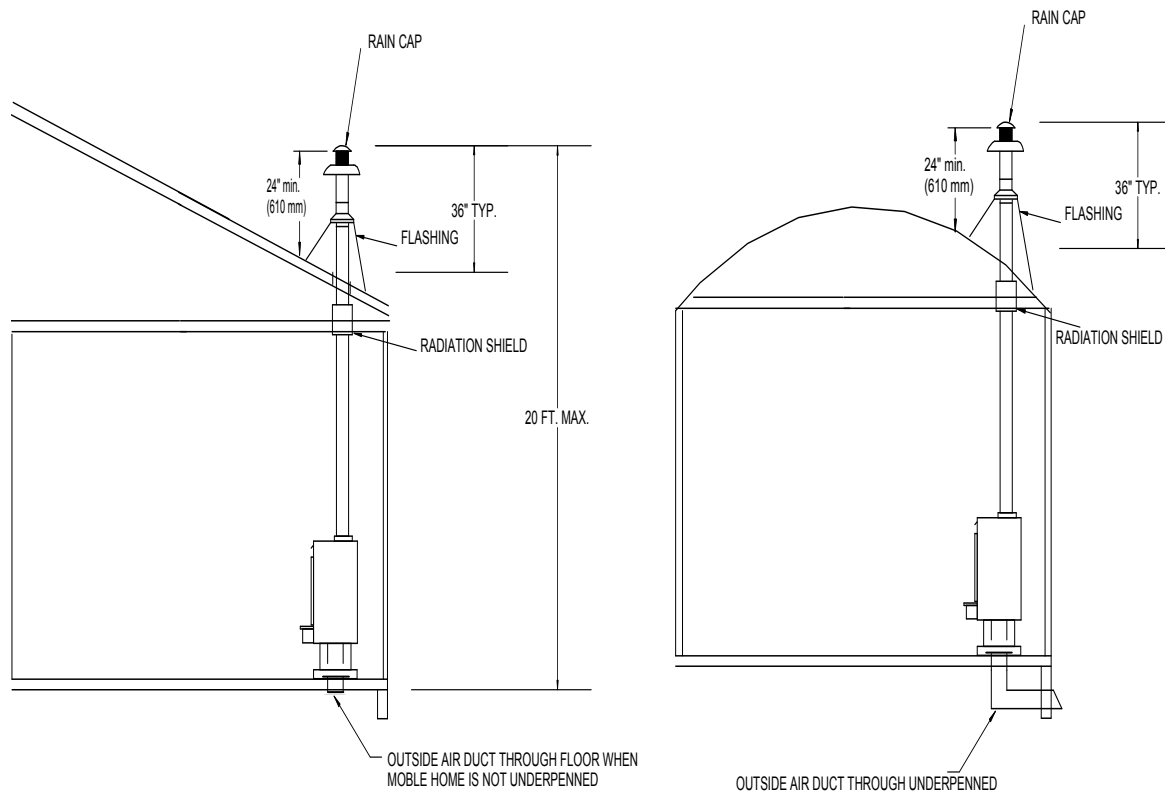

Figure 12
- (b) Chimney pipe height is at least 2 feet higher than any part of roof within 10 feet of chimney. See (Page 31, Figure 12).